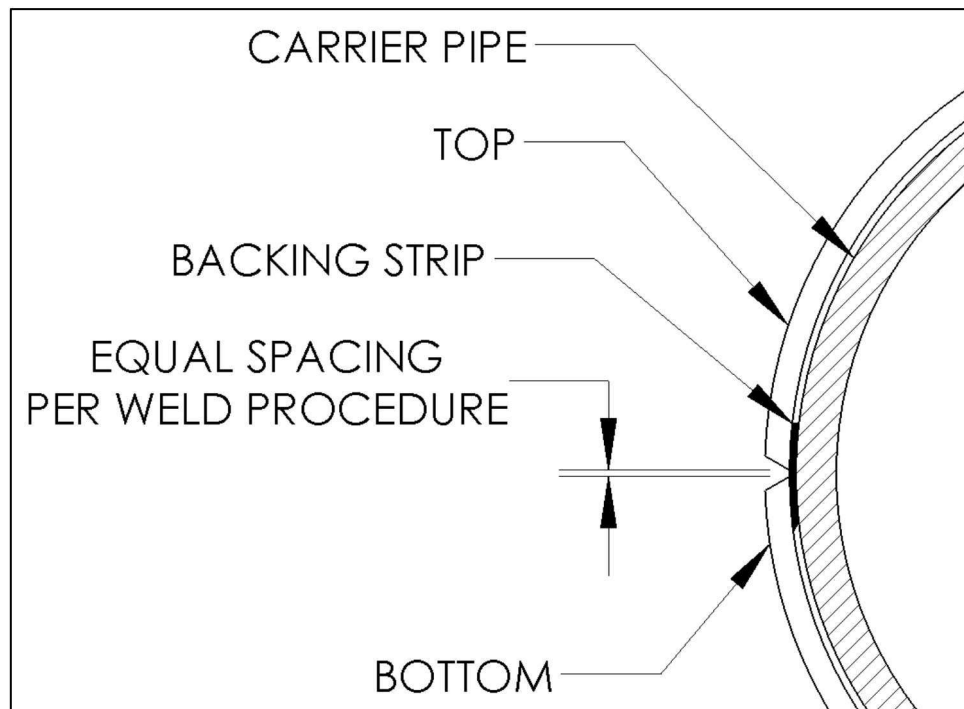

Figure 3
2. Align the top half to the bottom half maintaining an equal gap on both sides of the sleeve while the sleeve halves are drawn together as shown in Figure 3.